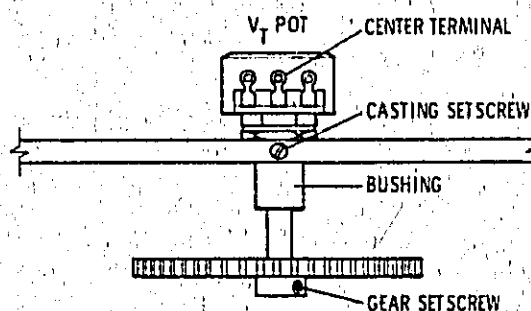

Figure 5-4. V_T Pot Adjustment
3. Install pot with gear in casting so that center terminal (934 wire) is in line with casting setscrew (see Figure 5-4).